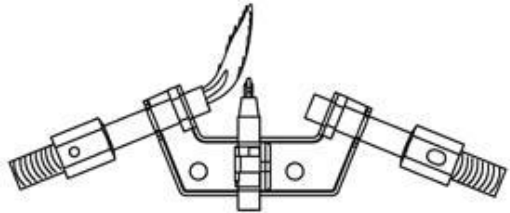

Figure 28 -Incorrect Pilot Flame Pattern
- Figure 28 shows an incorrect pilot flame pattern. The incorrect pilot flame is not touching the thermocouple. This will cause the thermocouple to cool. When the thermocouple cools, the heater will shut down.
- If the pilot flame is incorrect, as shown in Figure 28. Turn heater off (see To Turn off Gas to Appliance, page 19) See troubleshooting, page 25-27.